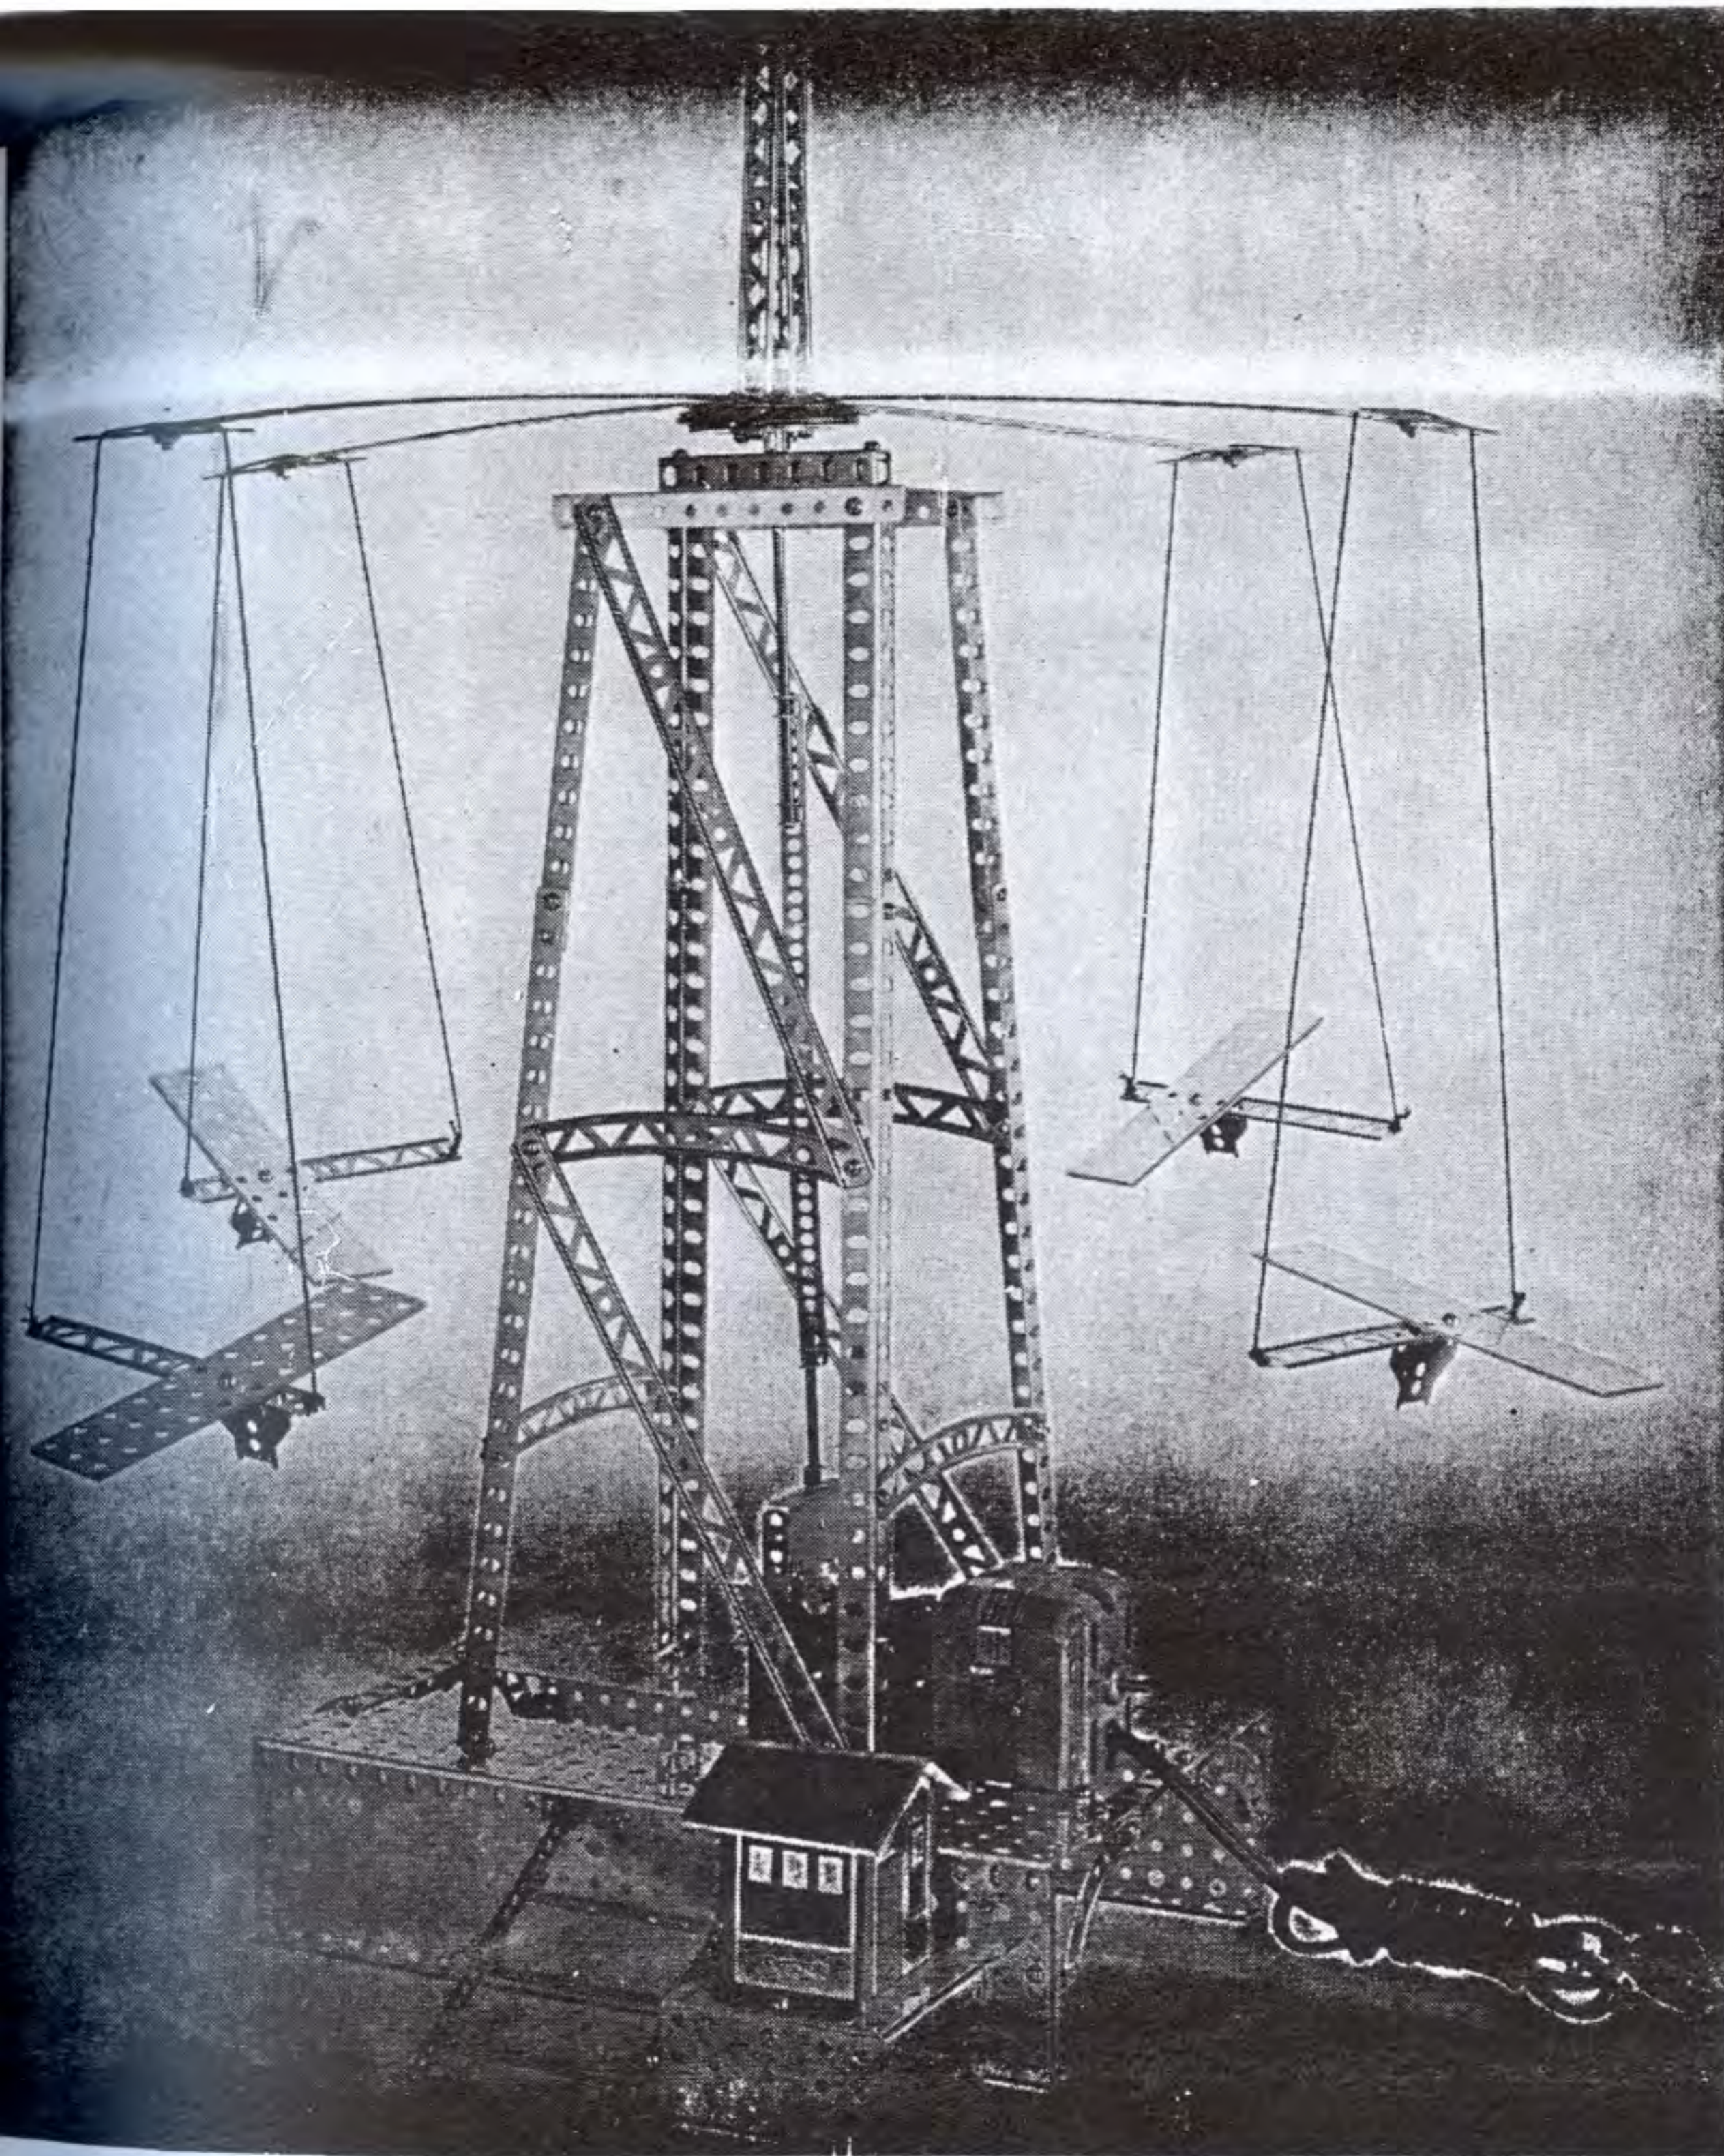
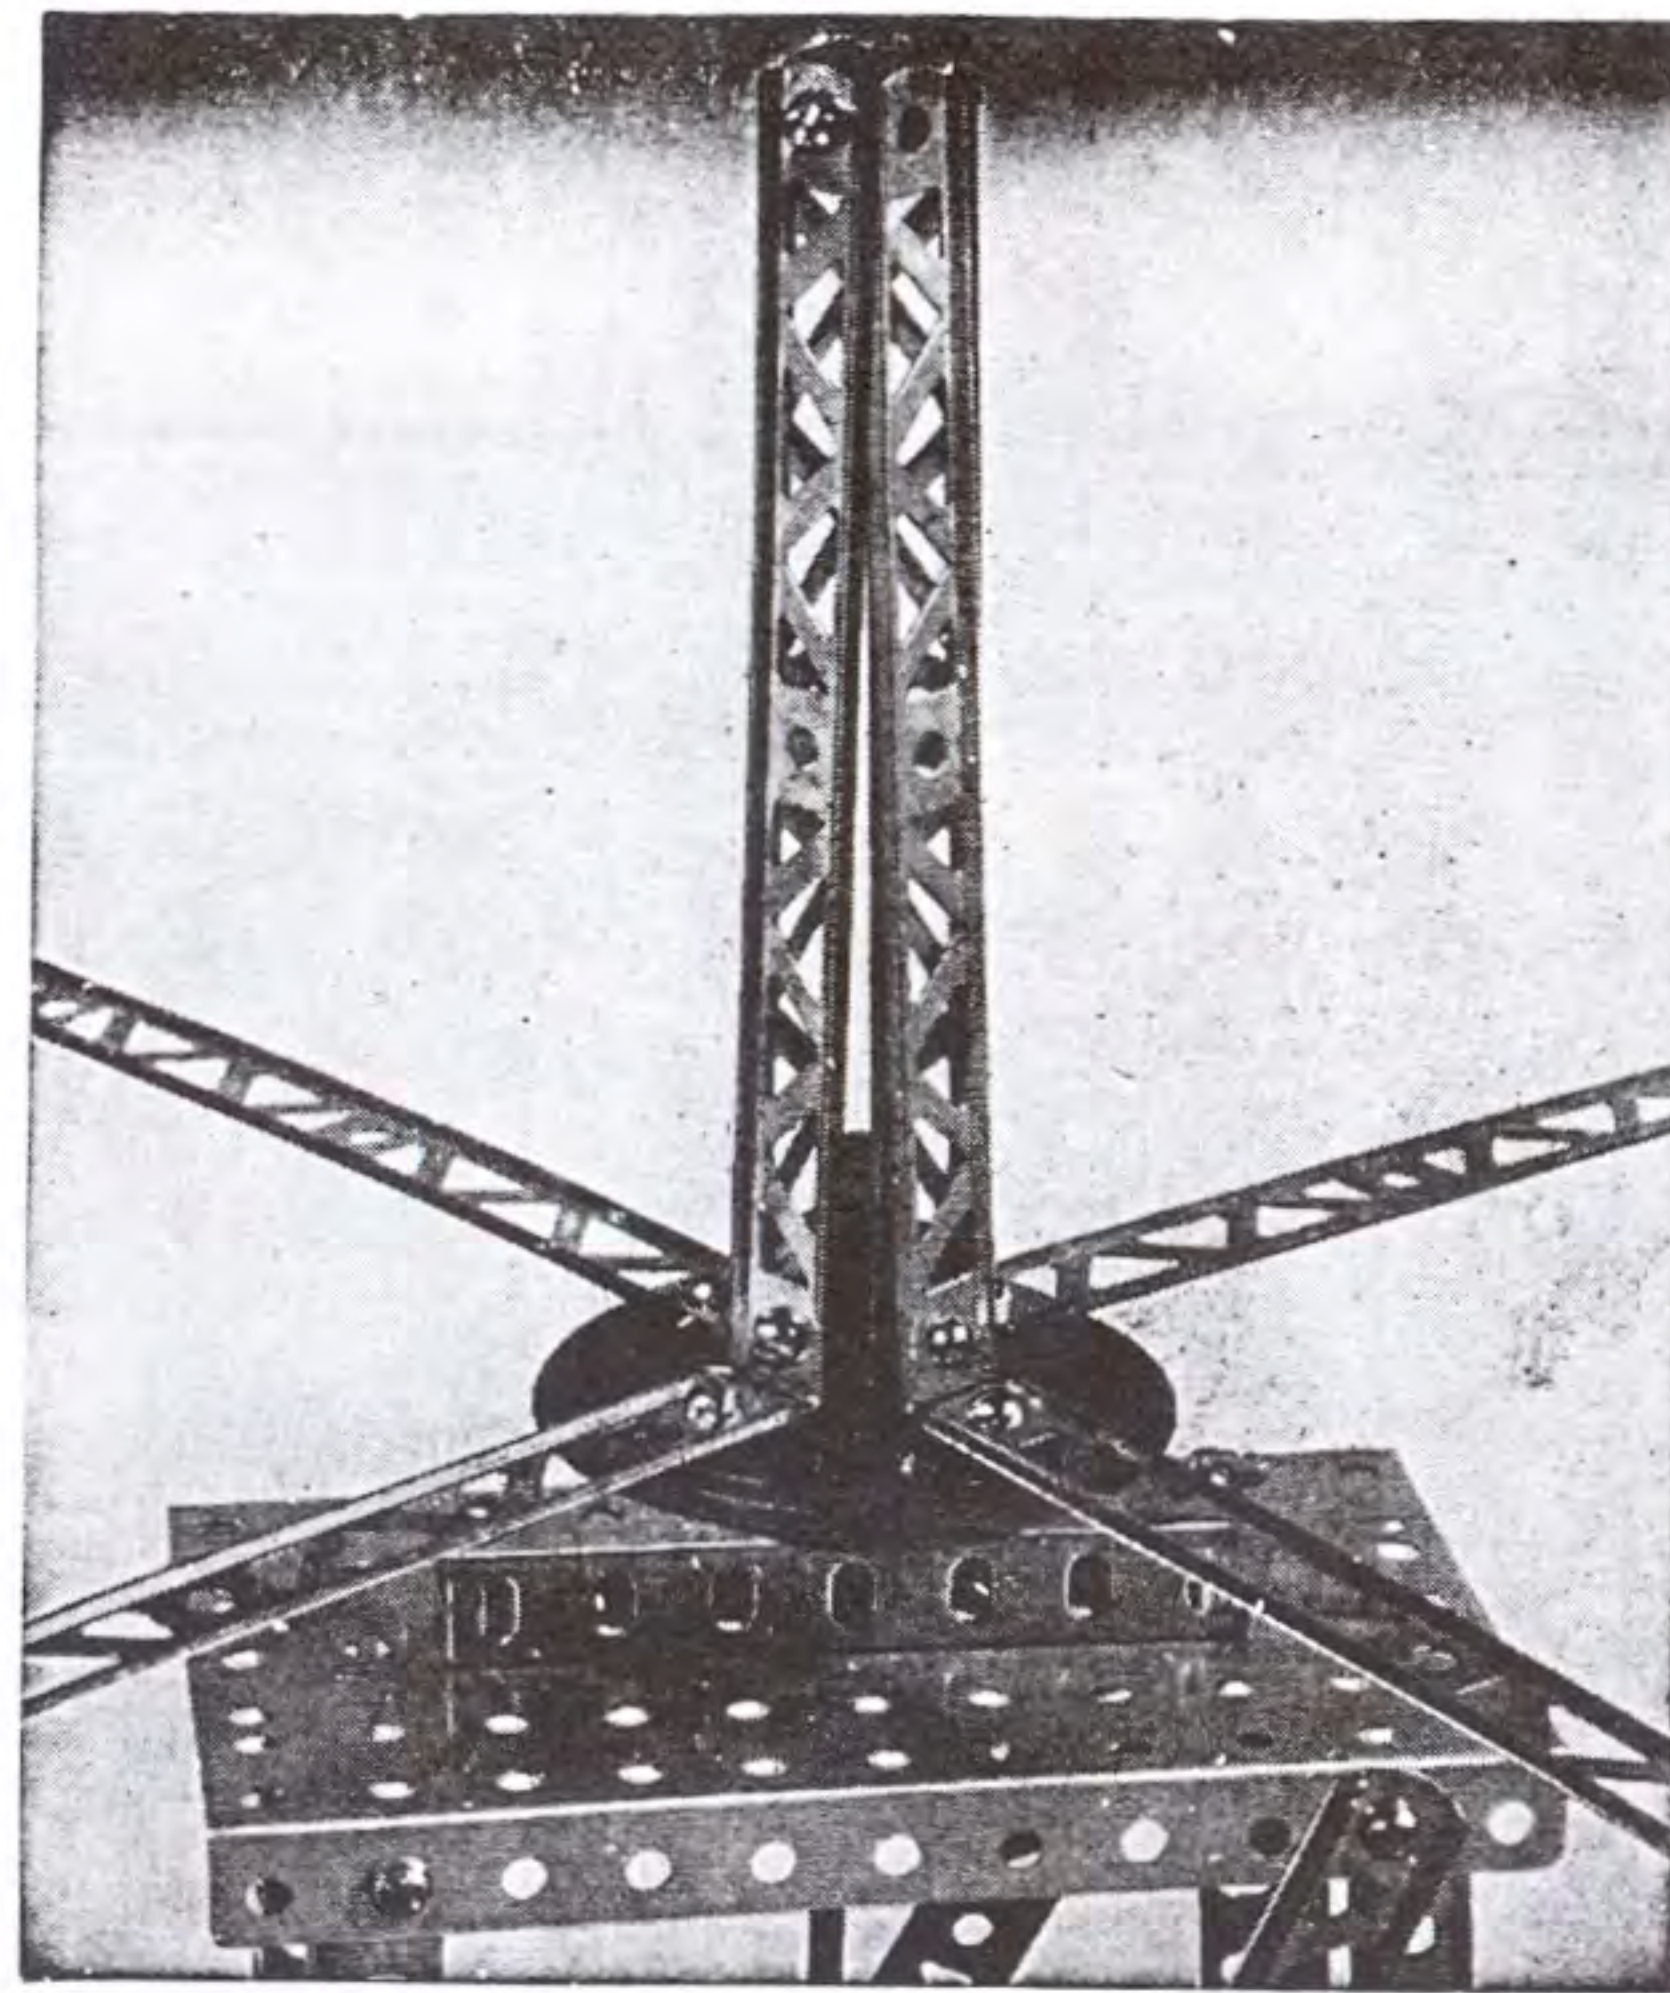

FIGURE 1
FIGURE 5
The base of the tower is shown in Figures 1 and 2. Fastened to the base with (CH) right angles are 4 (DP) 12" angle girders. On the top of angle girders are fastened 4 (BE) 6" angle girders, and then on the top of four angle girder assemblies is fastened an (MD) 2-1/2" x 5" base plate. top of this base plate are fastened 2 (MO) 3" angle girders which form shape with the open part of the (U) down on the base plate.
The tower is braced with (E) 5" curved girders and (C) 10" girders as in Figures 1, 2, and 3.
The revolving top is shown in detail in Figure 5. On a (BT) turret plate are fastened 4 (CH) right angles. To the vertical leg of the right angles are fastened 4 (B) 5" girders which are brought to the top to form a square. When the (CH) right angles are fastened to the turret plate, 4 (C) 10" girders are also fastened, each one at right angles to each other. On the ends of each 10" girder are fastened (A) 2-1/2" girders — see Figure 1. From these short girders are suspended the strings on which are hung the airplanes. Each airplane is made with a (B) 5" girder, a (MF) 1" x 5" base plate, and a P79 car truck as shown in Figure 1.